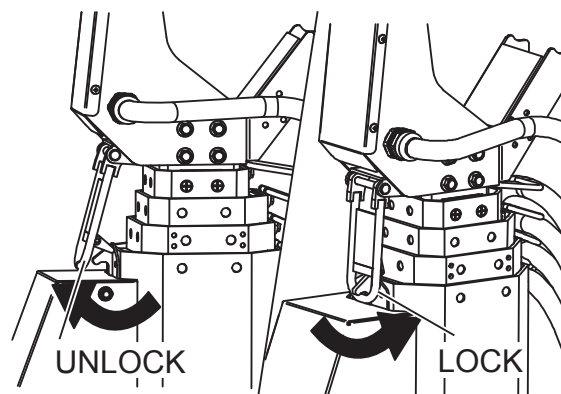

Figure 17. Unlocking the Shackle
1. Unlock the shackle (Figure 17).